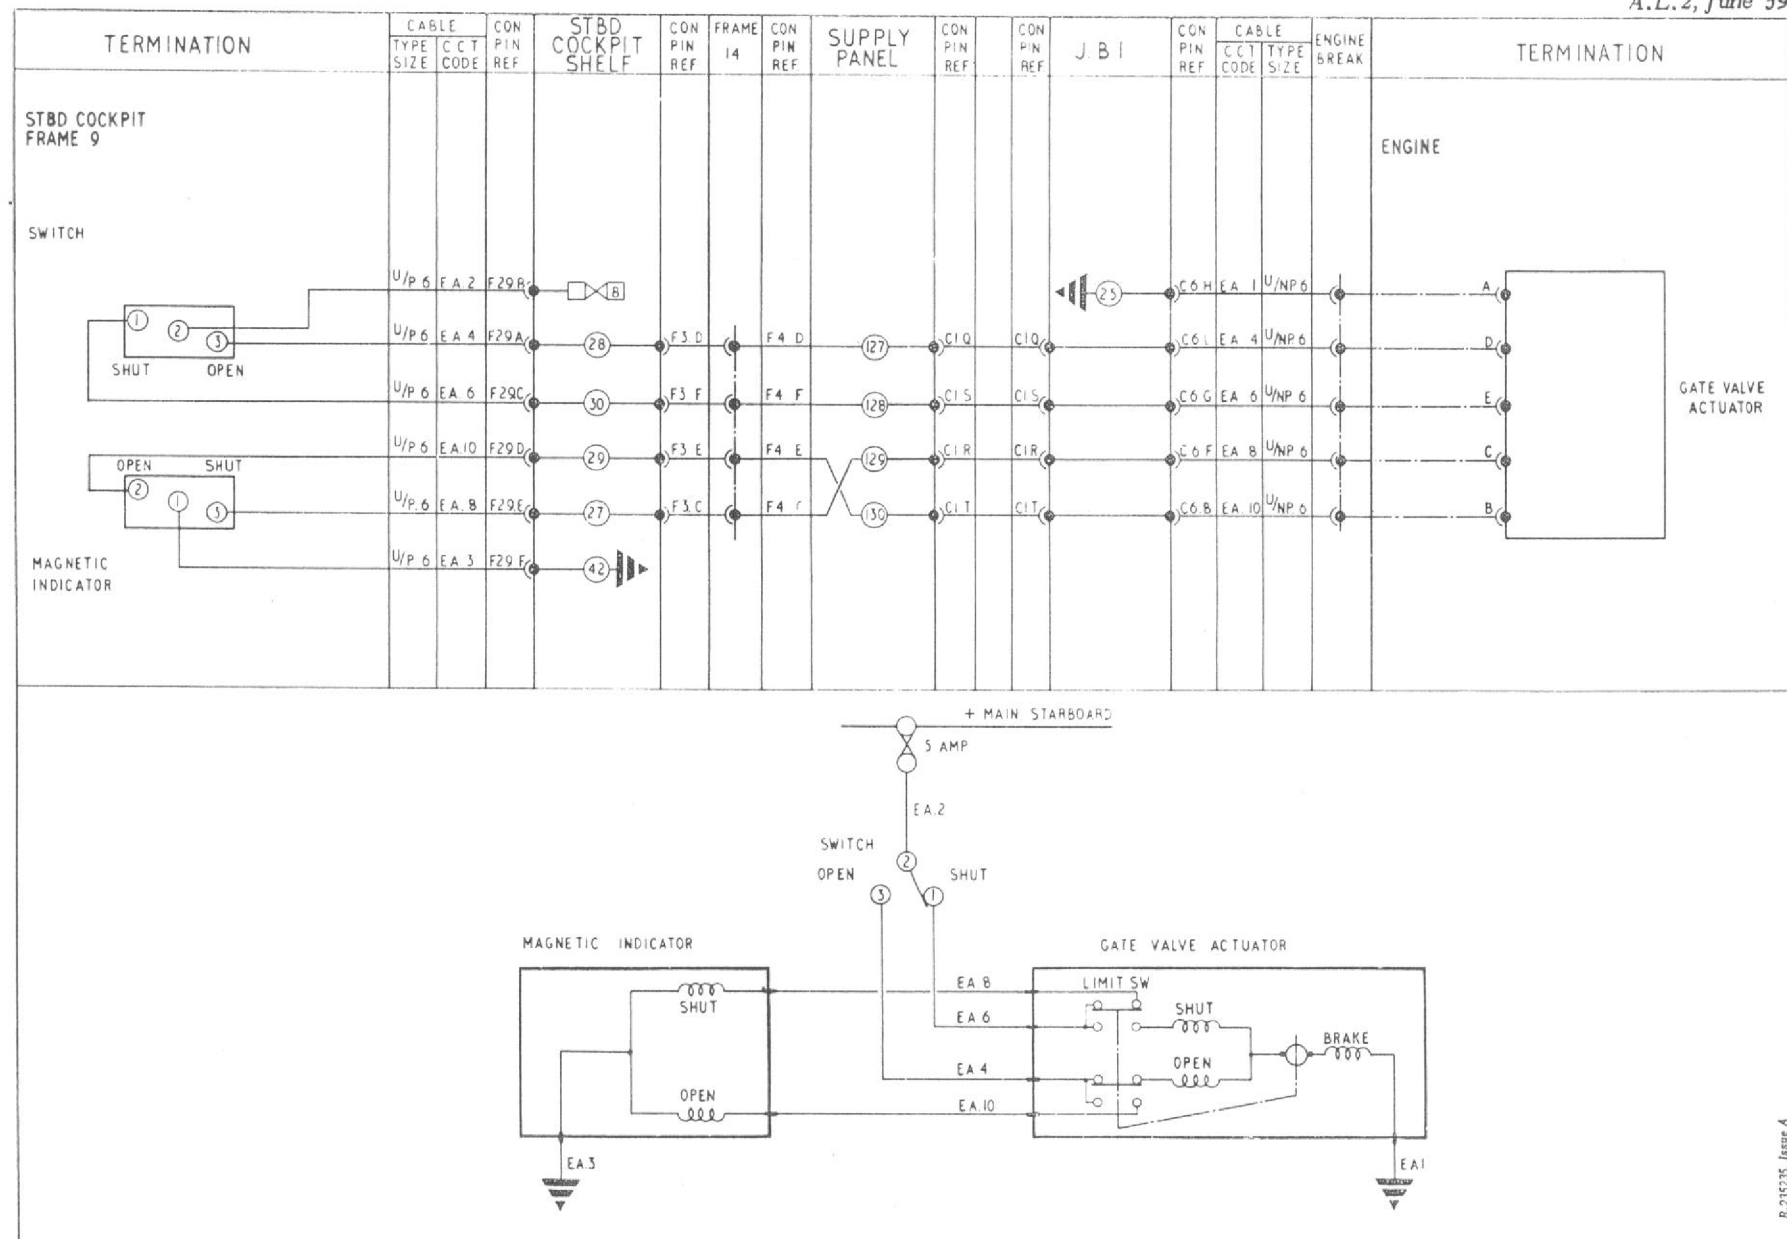

Fig.1. Engine anti-icing (routing and theoretical)
3. The diagram of the circuit (fig.1) shows conditions when the control switch is in the SHUT position. The gate valve actuator has operated to shut the valve. The actuator shut limit switch contacts have changed over to break the supply to the actuator and complete the supply to the 'shut' solenoid of the magnetic indicator to indicate valve SHUT. When the control switch is set to OPEN, both solenoids of the magnetic indicator are de-energized and current is fed from the